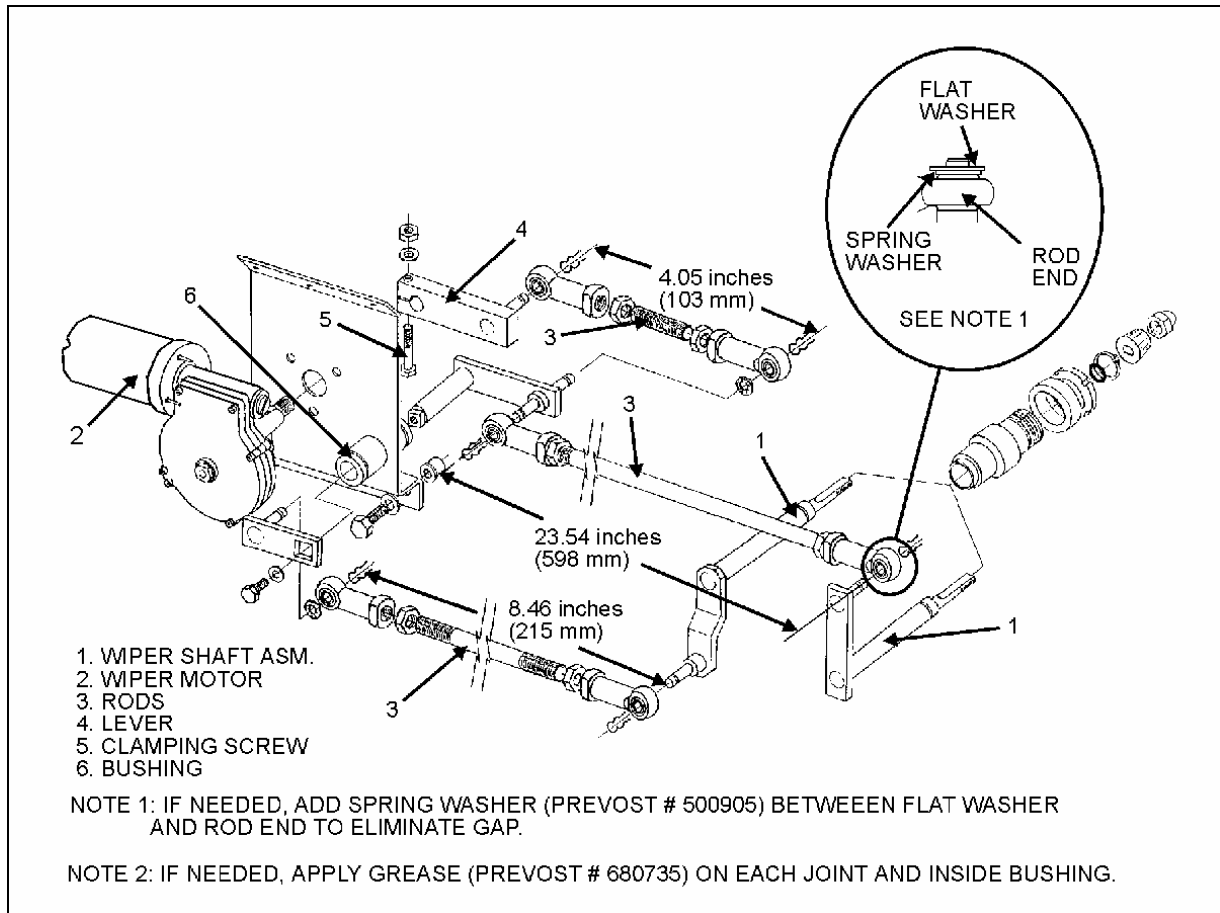

FIGURE 38: UPPER WINDSHIELD WIPER INSTALLATION
2. Adjust rods length (Fig. 38).
7. Loosen the bolt retaining the lever at the end of the motor driving shaft (Fig. 38).